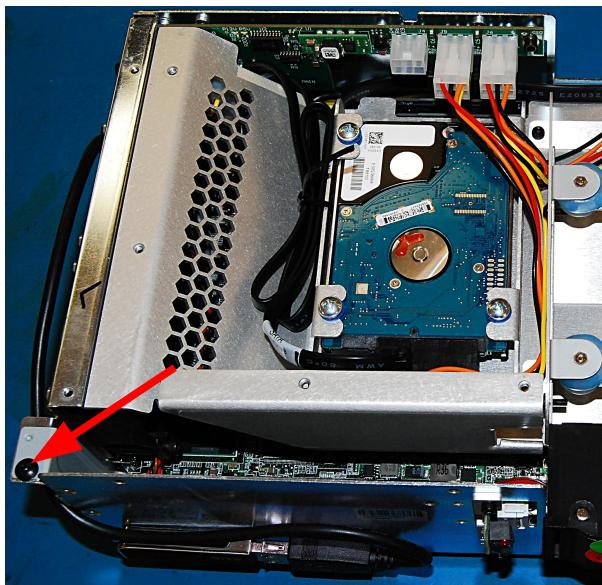

Fig. 5
7. Remove the card slot blank cover and install the GPU (Fig. 5,6)